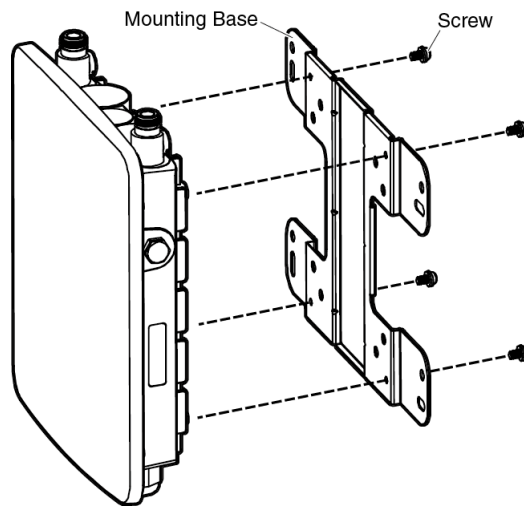

Figure 10. Attaching the Mounting Base to the Access Point
- Attach the mounting base to the access point with the screws using a Phillips-head screwdriver, as shown in Figure 10.
3. Attach the mounting base to the access point with the screws using a Phillips-head screwdriver, as shown in Figure 10 on page 31.
2. Attach the mounting base to the access point with the screws using a Phillips-head screwdriver. See Figure 10 on page 31.